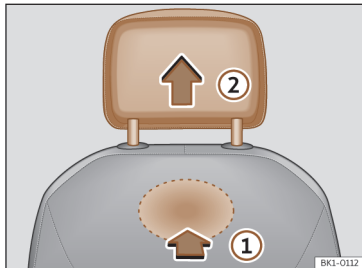

Fig. 110 Front headrest: removal.
- To unlock it, look for the rabbit on the bottom of the backrest and press in the direction of the arrow»» Fig. 110 ①.
- Remove the head restraint in the direction of the arrow ②.